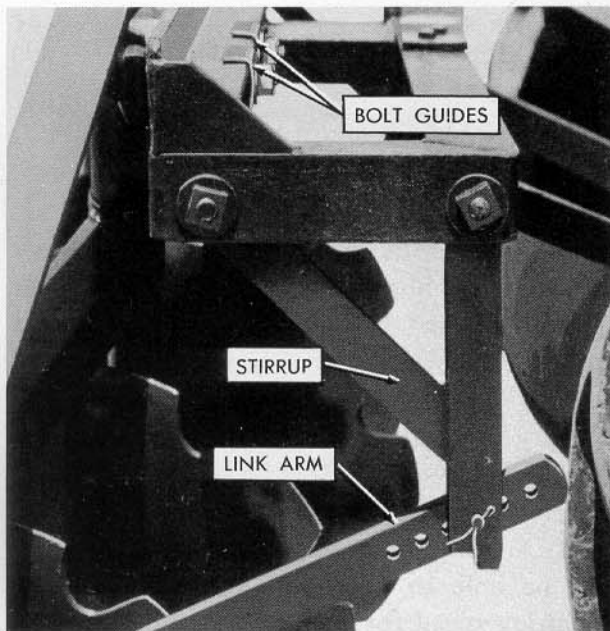

Figure 16
a pivot bolt (2) through the hole in the trunnion and the slot in the main frame. Be sure a washer is under the bolt head. Position the long saddle bolt guide on the pivot bolt (2) so that the guide fits over the saddle rail. (Figure 16 shows this bolt guide in position). Start nut on bolt and tighten finger tight. Place washer and the serrated saddle lock (3) on bolt provided and insert through the slot in the trunnion and the slot in the saddle rail so that the serrations in the lock mesh with those in the saddle trunnion. Position a short bolt guide on the bolt and over the rail. Tighten nut finger tight.
stirrups. See Figure 16. Place the stirrup pin through the hole in the link arm that will give the desired gang angle setting. Secure pin with cotter pin. When the link arm is attached to the stirrup with the pin in the forward hole, the gangs are set to the maximum angle. With the pin in the rear hole, the minimum gang angle is obtained.
3. Remove the stirrups from the center of the main frame and bolt the LEFT hand stirrup on the RIGHT end of the main frame and the RIGHT hand stirrup on the LEFT end of the main frame. See Figure 16.